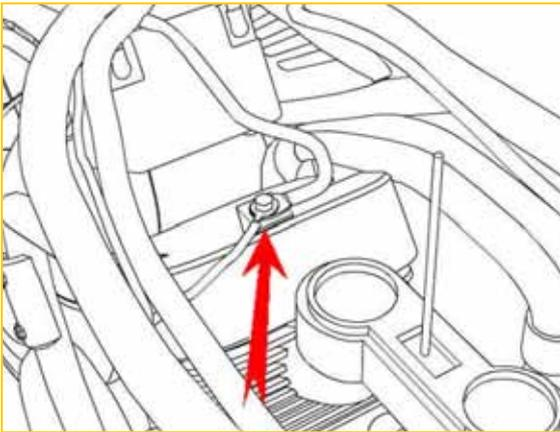

Figure 15
20. Connect the Zodiac Tfi ground wire to the battery negative cable as shown (fig 15)